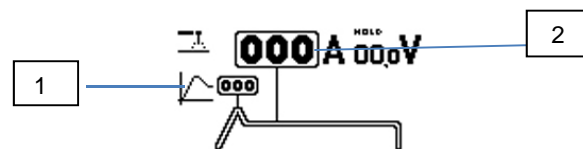

Fig.4
- OPÇÃO DE HOT START (fig. 4, ref.1)
- CORRENTE DE SOLDADURA (fig. 4 ref. 2)